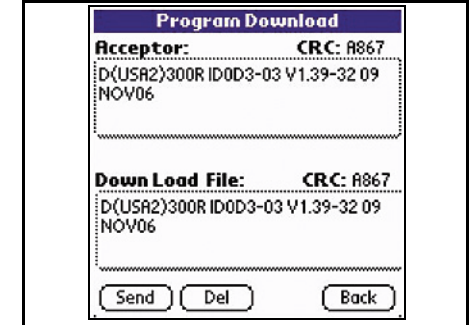

Figure 14 Download Verify Screen
6. Once the download is complete, click on any area of the **Acceptor:** Box. The program will check the DBV and report the version of software currently installed (See Figure 14 on page 17). Verify that the version listed in the **Acceptor:** Box agrees with the version listed in the **Download File:** Box.